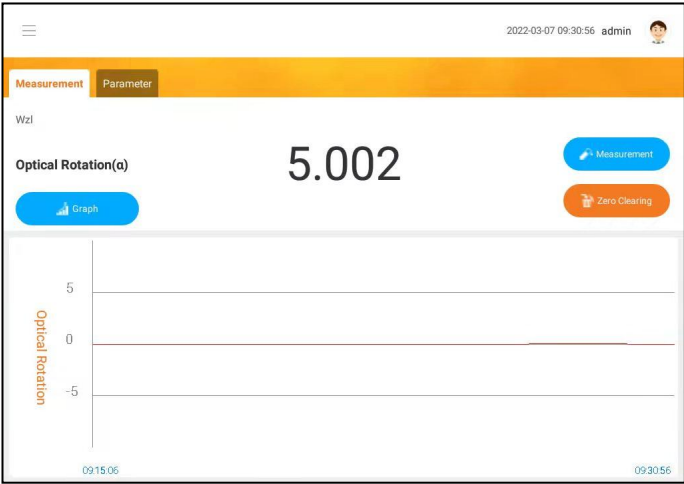

Fig. 6
**Graph:** click Graph to hide the data items and show the graph box as shown in Fig. 6.